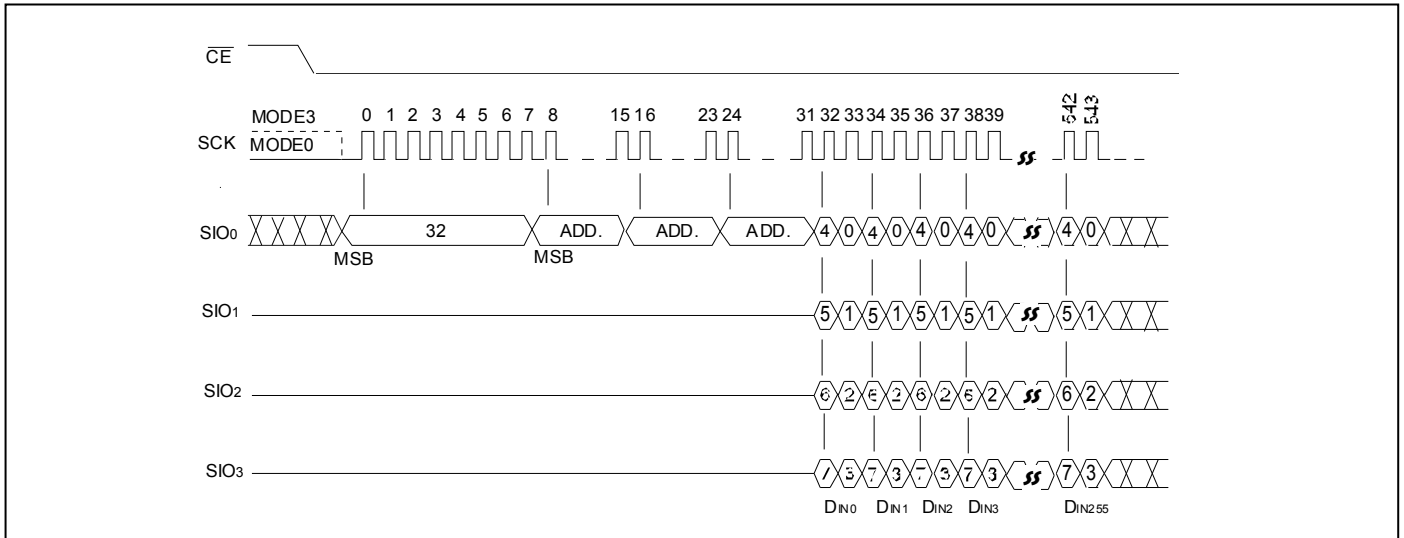

Figure 11: Quad Page Program Sequence
Prior to Quad Page Program operation, the Write Enable (WREN) instruction must be executed and Quad Enable (QE) bit of Status Register must be set "1". The other function descriptions are as same as standard Page Program. See Figure 11 for the Quad Page Program sequence.